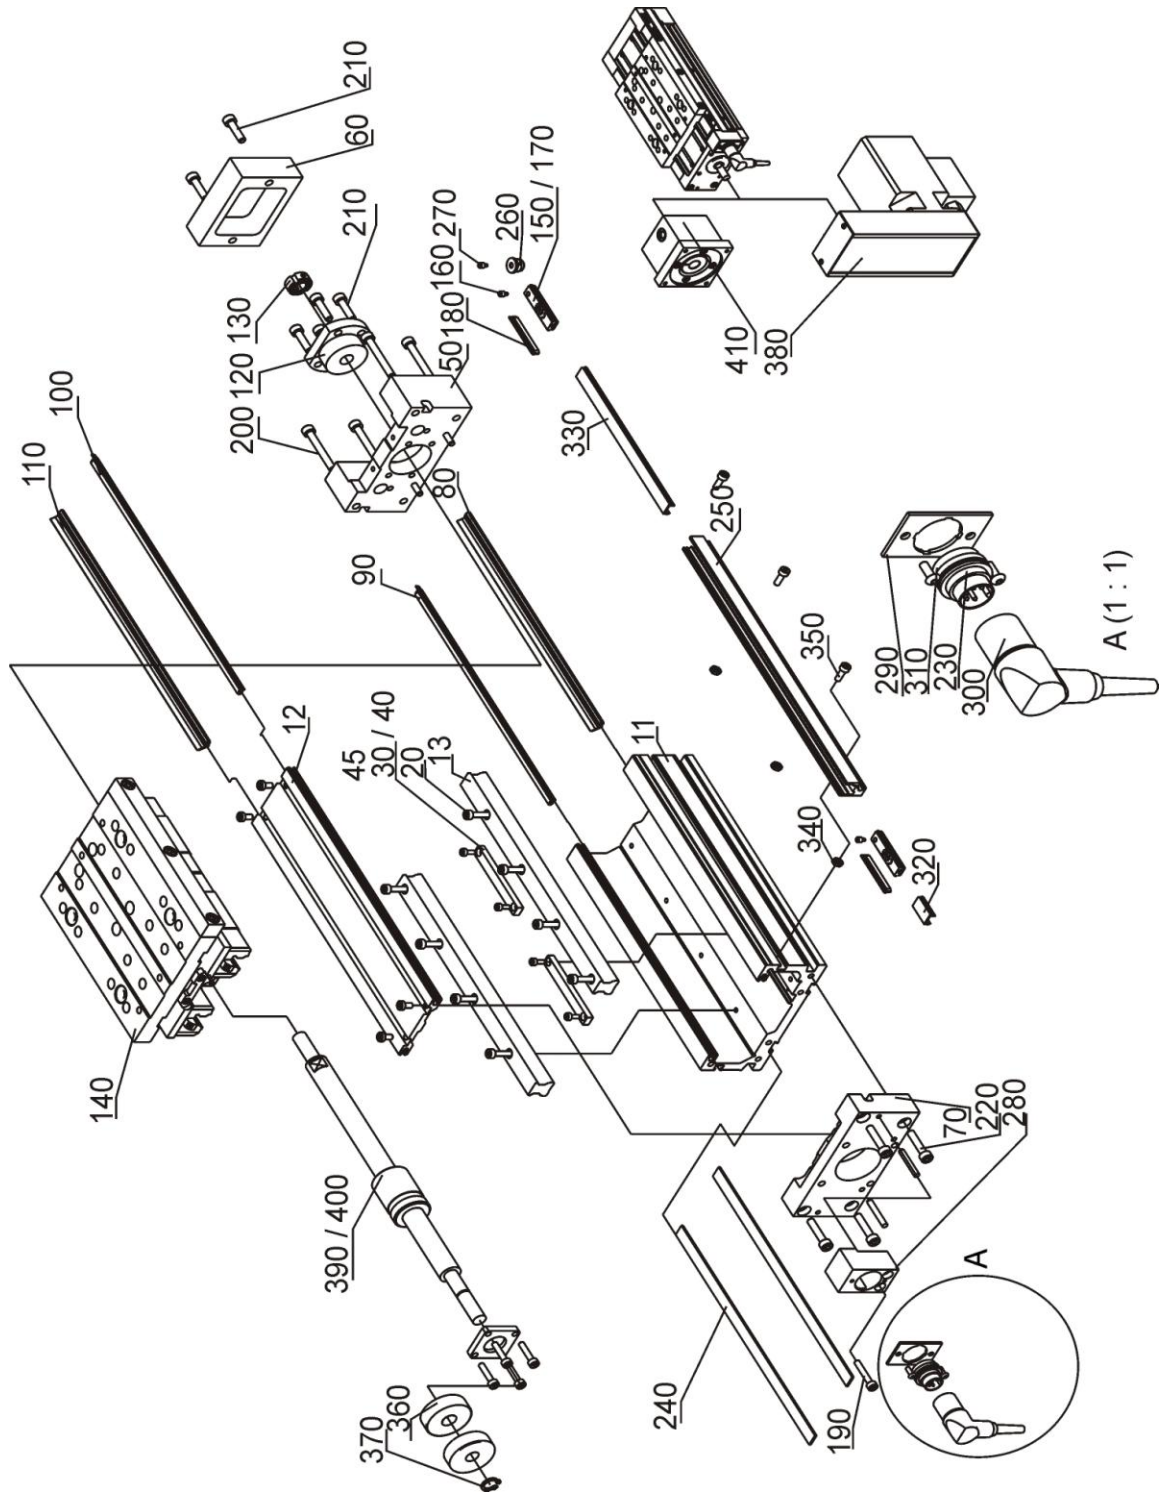

Figure 22 :Basic unit profilLINE 115 (TG100604), exploded view
Axial bearing unit defective	Replace unit (see item 120 in drawing no. TG 1000604 in Figure 22, page 29)
Ball screw runs dry	Relubricate ball screw (see item 390/400 in drawing no. TG 1000604 in Figure 22, page 29)
Floating bearing defective	Replace ball bearing (see item 360 in drawing no. TG 1000604 in Figure 22, page 29). Check spindle seat, replace ball screw if required, see item 390/400 in drawing no. TG 1000604 in Figure 22, page 29)
End plates are not aligned to be flush with the ball screw	Align and re-pin "fixed bearing" end plate (see item 50) and "motor" end plate (see item 70 in drawing no. TG 1000604 in Figure 22, page 29)
Axial bearing unit defective	Replace unit (see item 120 in drawing no. TG1000604 in Figure 22, page 29)
Groove nut not tightened	Tighten groove nut, and secure with lateral threaded pins (see item 130 in drawing no. TG1000604 in Figure 22, page 29)
ball screw defective	Replace ball screw (see item 390/400 in drawing no. TG1000604 in Figure 22, page 29)